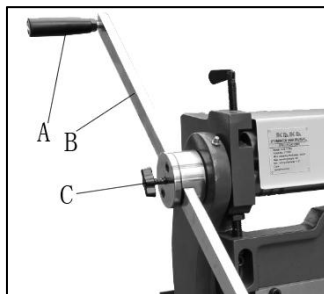

Figure 2
7. Remove one handle (A, Figure 2) from each operating handle assembly, using 8mm hex key.
8. Loosen lock bolt (C, Figure 2).
9. Slide bar (B) into hub and tighten lock bolt (C) to secure.
10. Re-install handle (A).